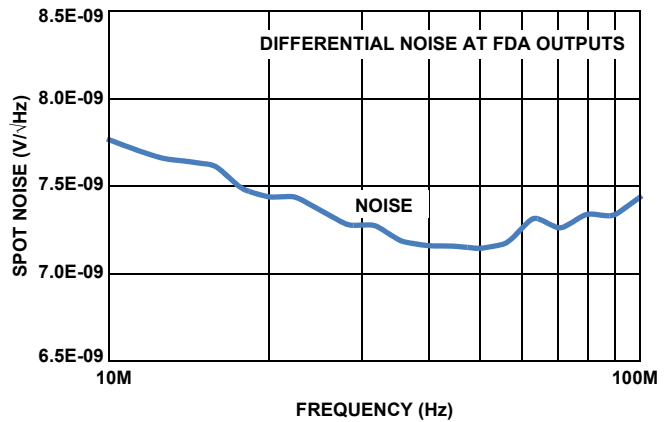

FIGURE 8. MEASURED OUTPUT NOISE FOR THE CIRCUIT OF FIGURE 4
The Noise Figure (NF) in this relatively low gain setting calculates to approximately 7dB. This low NF is depending on the low 0.85nV/ $\sqrt{\text{Hz}}$ differential input spot noise for the ISL55210 and the reduced resistor values enabled by this active input match capability. Going to higher gain settings will reduce the input NF where for gains >22 dB it drops below 6dB; a remarkable number for a 115mW amplifier. These numbers are from an analysis using only the differential path noise numbers. Since this topology will also have a common mode noise component, the measured NF will be slightly higher due to component mismatches converting a small portion of the common mode noise to differential. Measuring the spot output noise for the default configuration of the active balun board with a 50Ω termination on the input and referring that measurement to the FDA differential output pins gives the plot of Figure 8.